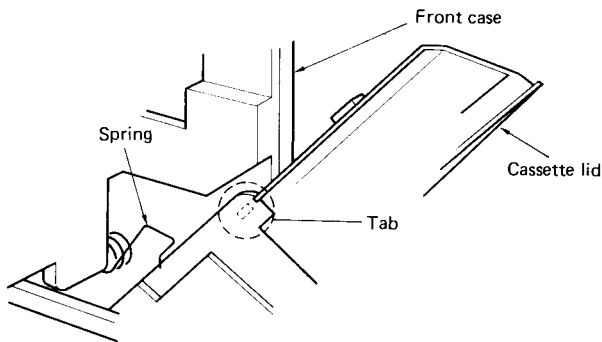

Fig. 1
- 1) Open cassette lid (TAPE 1) to remove the spring shown in Fig. 1.